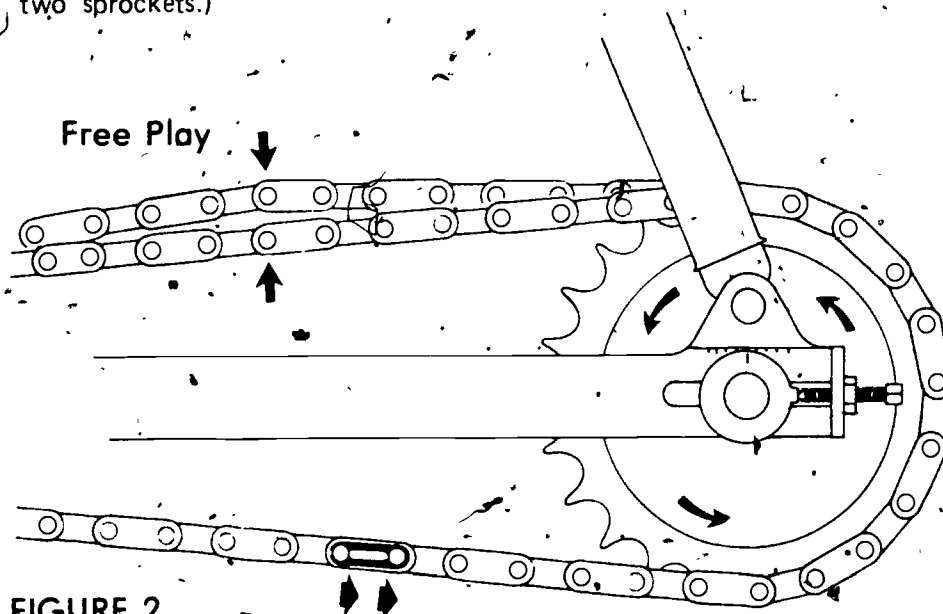

FIGURE 2
- B. Turn both adjusting bolts in or out until proper free play or chain slack is obtained (Figure 2)